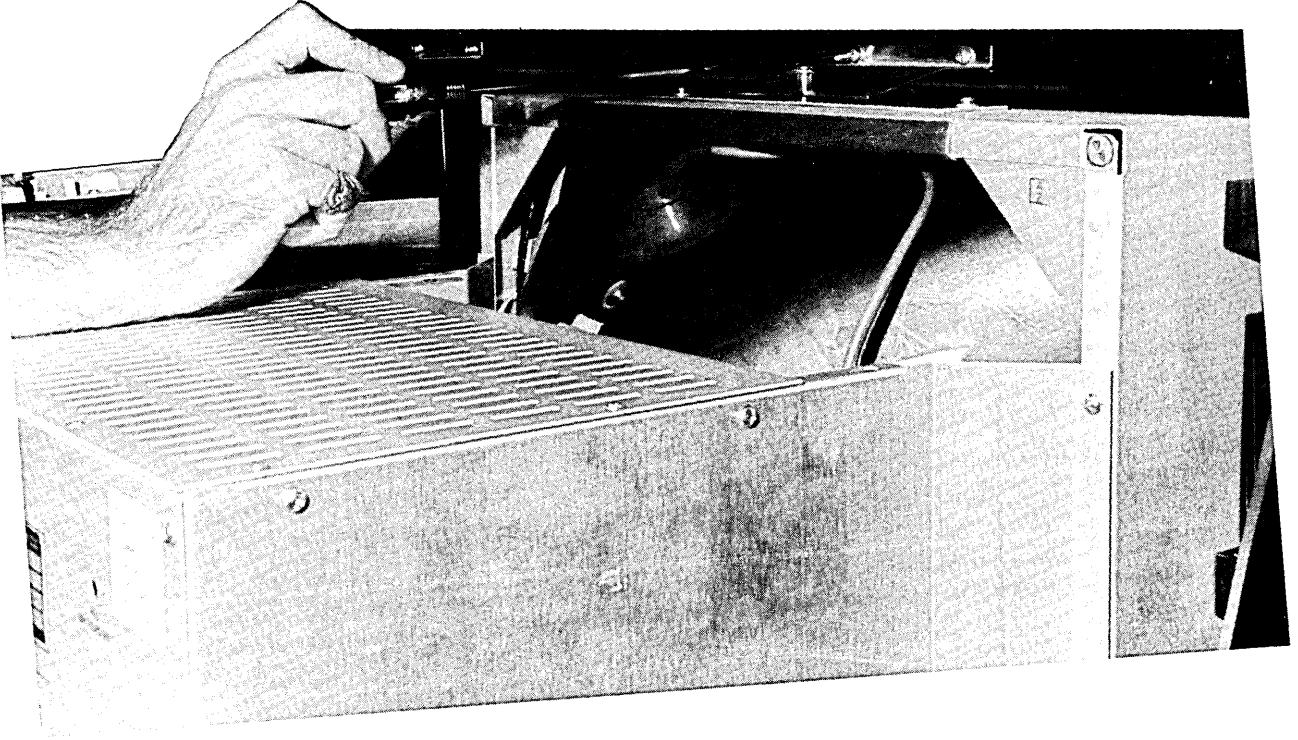

Figure 5-31. Removing Monitor Swivel Pivot Assembly
4. See figure 5-31. Remove the swivel pivot assembly (3 screws).
3. Replace the swivel pivot assembly. See again figure 5-31.